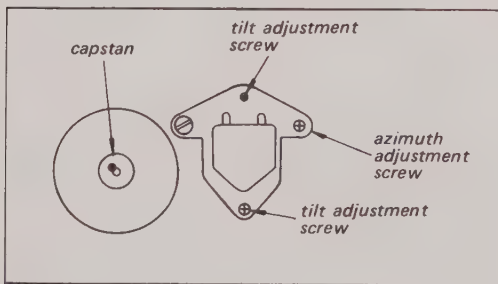

Fig. 9-2. Adjustment parts location
3. Adjust the azimuth and tilt adjust screws on the Audio/CTL head mount for maximum output. See Fig. 9-2.